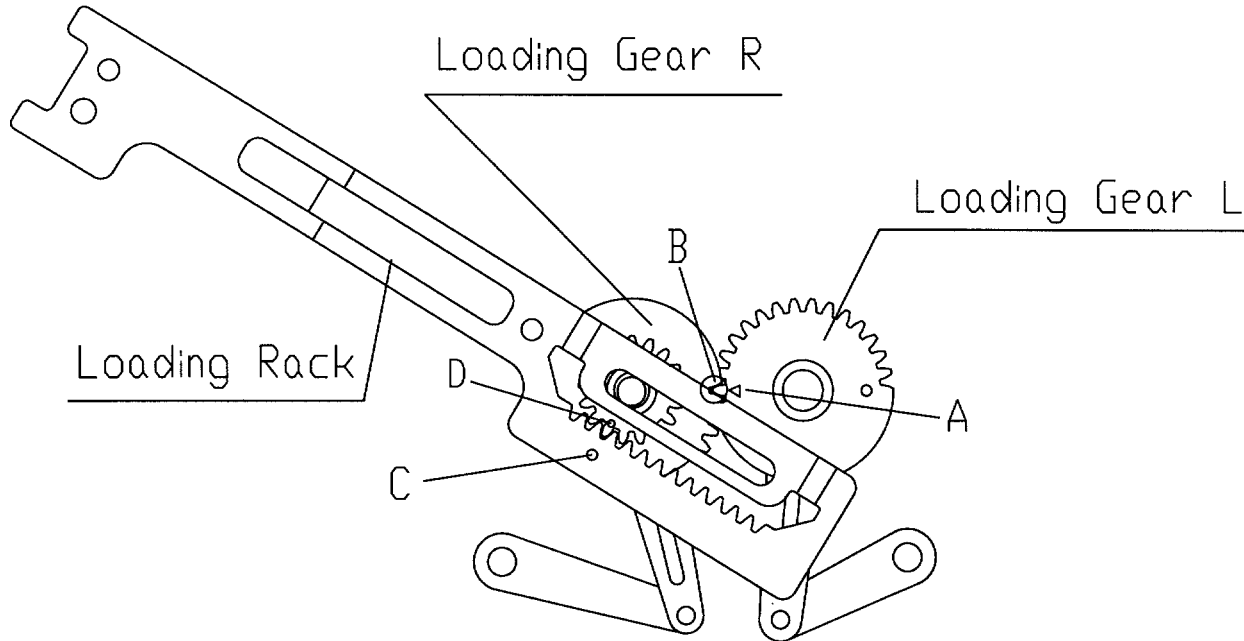

Fig. 5 Mechanical Checks/Loading Rack and Loading Gear Alignment
5. Confirm that the triangular mark "A" on the Loading Gear L Ass'y is aligned with the notch "B" in the Loading Gear R ass'y in EJECT mode. (Fig. 5)
6. Make sure that the teeth of the Loading Rack are aligned with those of the Loading Gear R so that the hole "C" of the Loading Rack aligns with the circular mark "D" on the Loading Gear R. (Fig. 5).